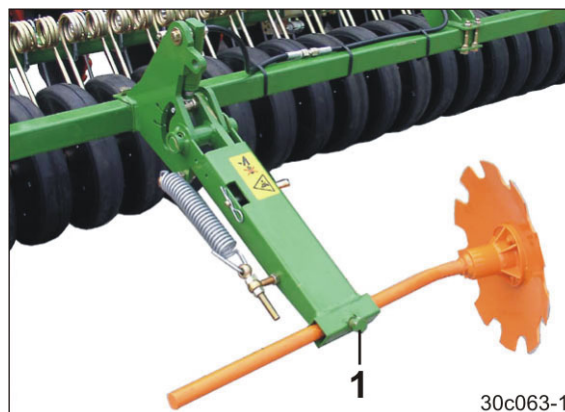

Fig. 156
12. Tighten the screws (Fig. 156/1) firmly.